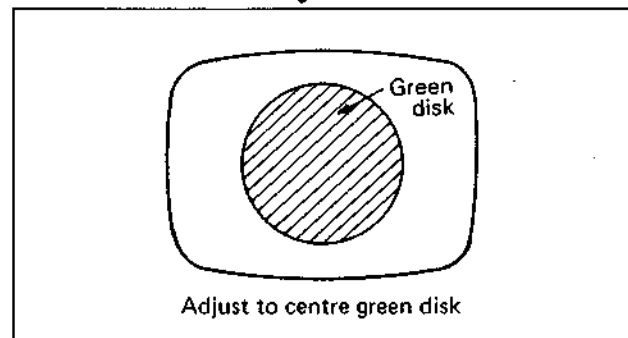

Fig. 6-2
4. Loosen the deflection yoke securing screw and slide the yoke fully rearward to obtain colour shading in the green disk. (Fig. 6-2)
6. Open and close the two purity magnets (scissor fashion) and adjust so that the green disk is positioned at the center of the picture. (Fig. 6-2)